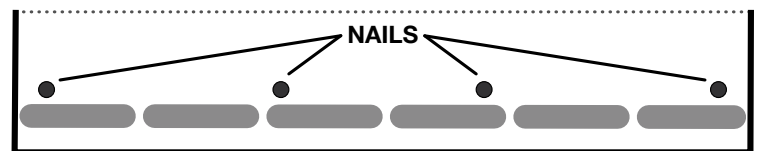

Figure 3 - Smart Start™ Fastening Pattern
Nailing Pattern: Use four (4) fasteners for each starter shingle. Install with fasteners placed 1¹/₂" - 3" (38-76 mm) up from the eave, one fastener 1" (25 mm) from each end of the starter and the remaining two (2) evenly spaced on the same line as the end fasteners. Do not place fasteners in the seal-down strip. (See Figure 3)